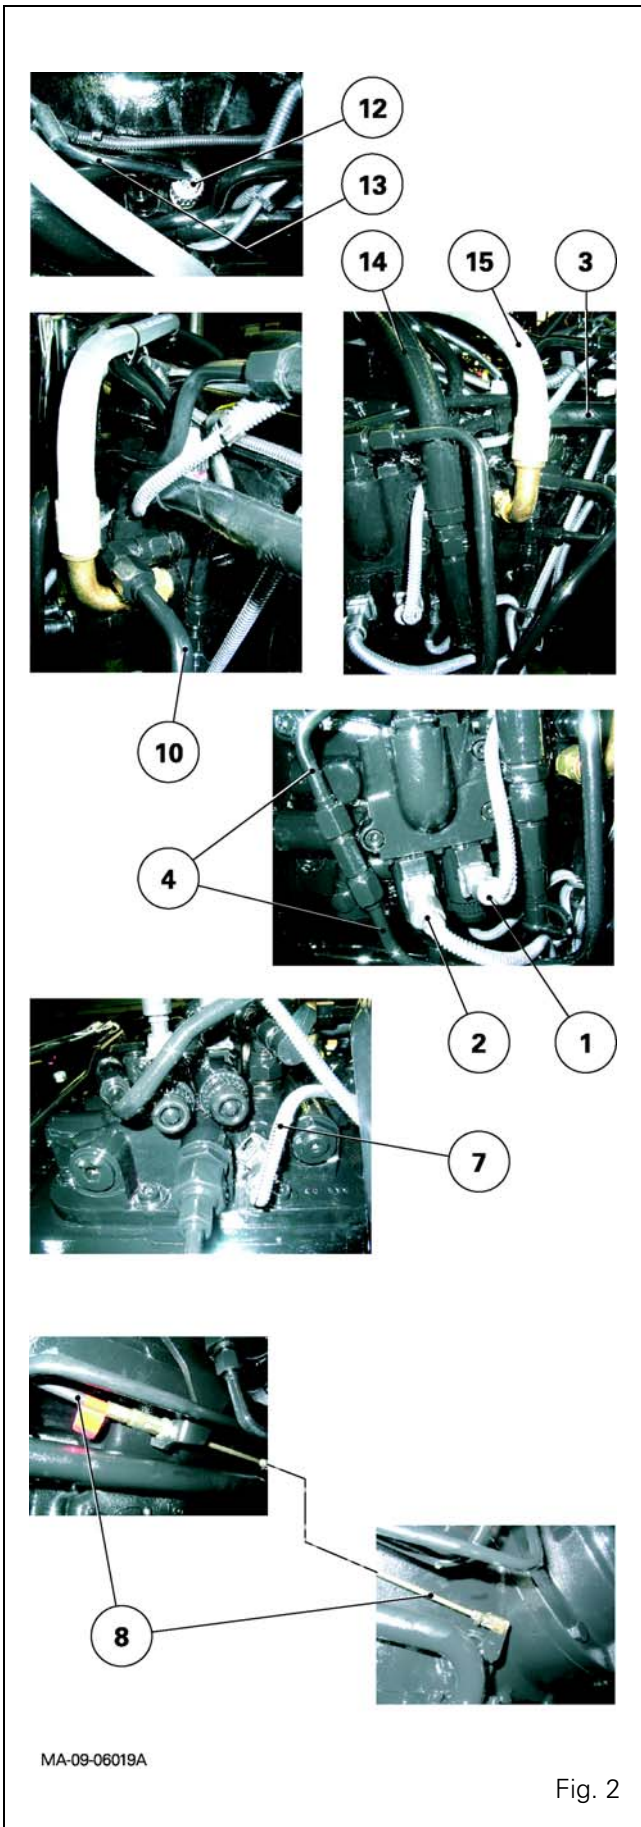

Fig. 2
Removal (Fig. 2)
The engine movement transmitted to the gear (1) via the shaft (5) drives the gear (12) for the charge pump (2) (Fig. 2).